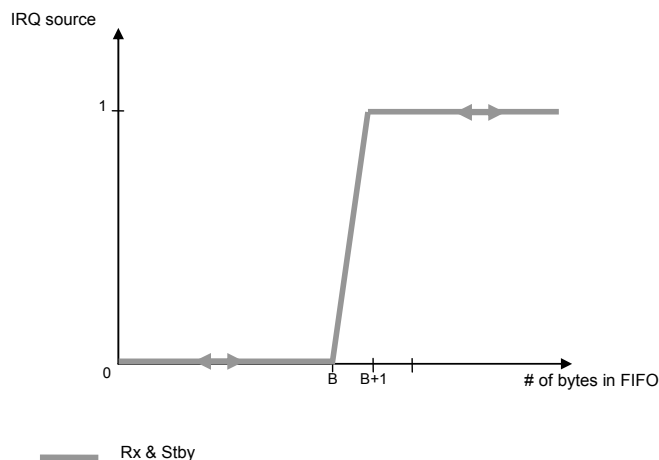

Figure 25: FIFO Threshold IRQ Source Behavior
- Fifo\_threshold: Fifo\_threshold interrupt source's behavior can be programmed via MCPParam\_Fifo\_thresh (B value). This behavior is illustrated in Figure 25.